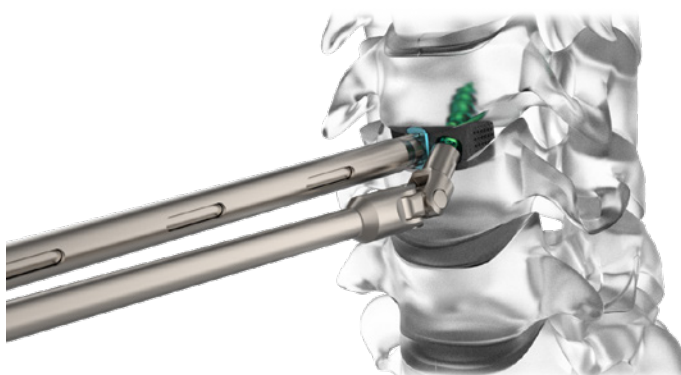

Figure 15
- Screws are color-coded by length and diameter. Press the hex driver (straight or polyaxial self-guided or fixed angle tip) into the female drive feature of the screw in order to retain the screw onto the screw inserter. Guide the attached screw into the pilot hole and thread until fully seated. Ensure screw is concentrically centered in screw pocket and aligned correctly. Verify screw placement and angulation via intraoperative imaging (Figure 15).